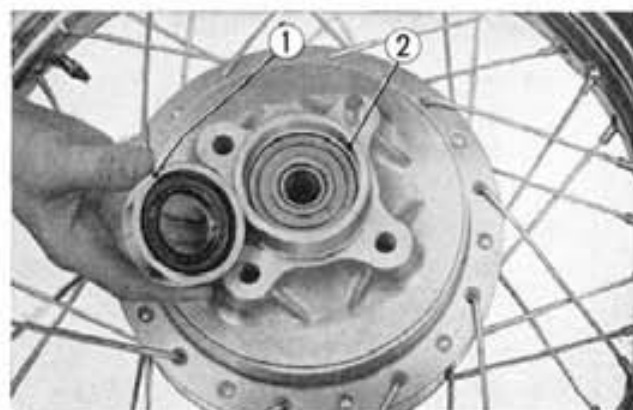

Fig. 13-19 ① Rear wheel bearing retainer
9. Remove the rear wheel bearing retainer, and remove the bearing from the wheel hub. (Fig. 13-19)